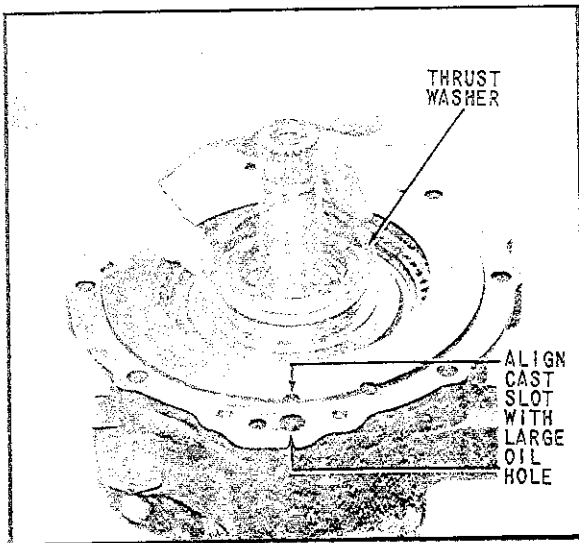

Fig. 56 Installing Thrust Washer and Reverse Clutch Pressure Plate
49. Coat thrust washer with petroleum jelly and assemble, as shown in (Fig. 56).